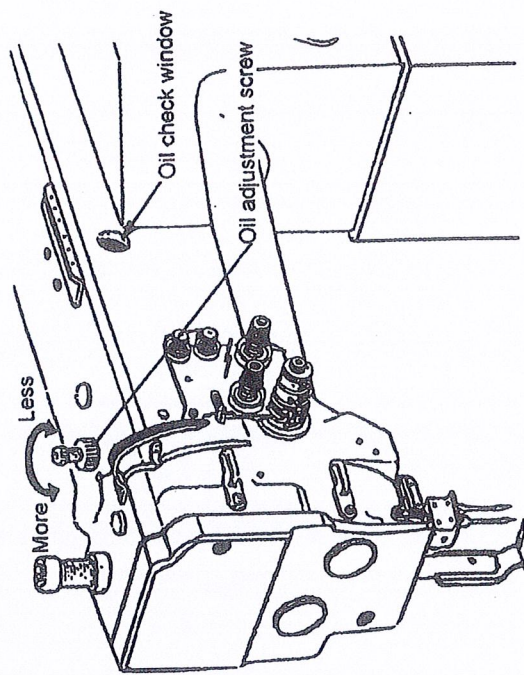
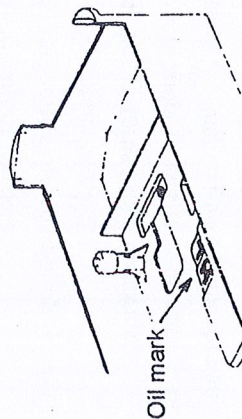
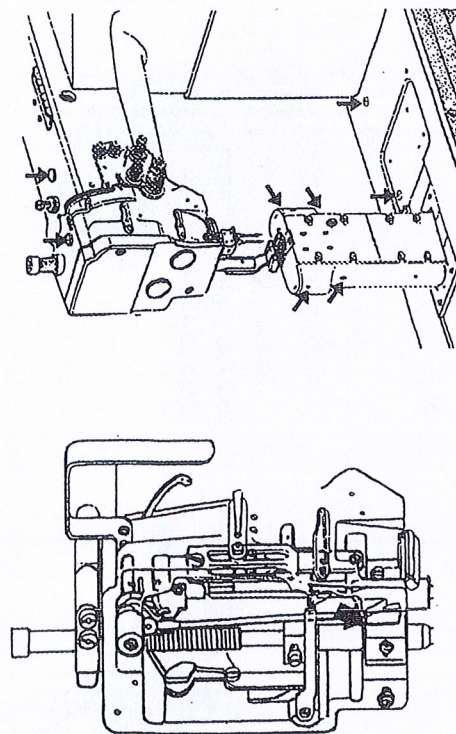

Fig.15
Fig.13
Fig. 14
- 3) While operating the machine, check the condition of oil lubrication through the oil check window. The oil amount can be adjusted by oil adjustment screw. (Fig.15)
17. Lubrication (Fig.13、Fig.14、 Fig.15):
- 1) Before starting operation, be sure to pour oil up to the position H of oil tank. If the oil below position L, replenish the oil supply up to position H. (Fig.13)
- 2) When a new sewing machine is first operated, or when a sewing machine which left out of use for a long period of time is operated, it will be necessary to oil through the oil holes after removing the rubber plugs shown below (the direction shown in arrows). (Fig. 14)